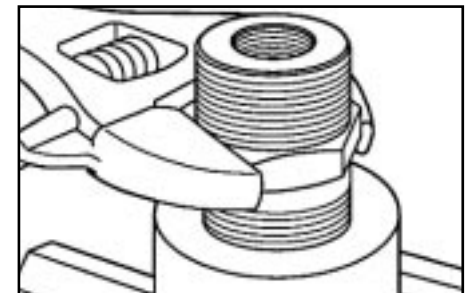

Figure 59
7. Remove the suction check valve and the bleeder plug from the fluid cylinder. (Fig. 59 & 60)